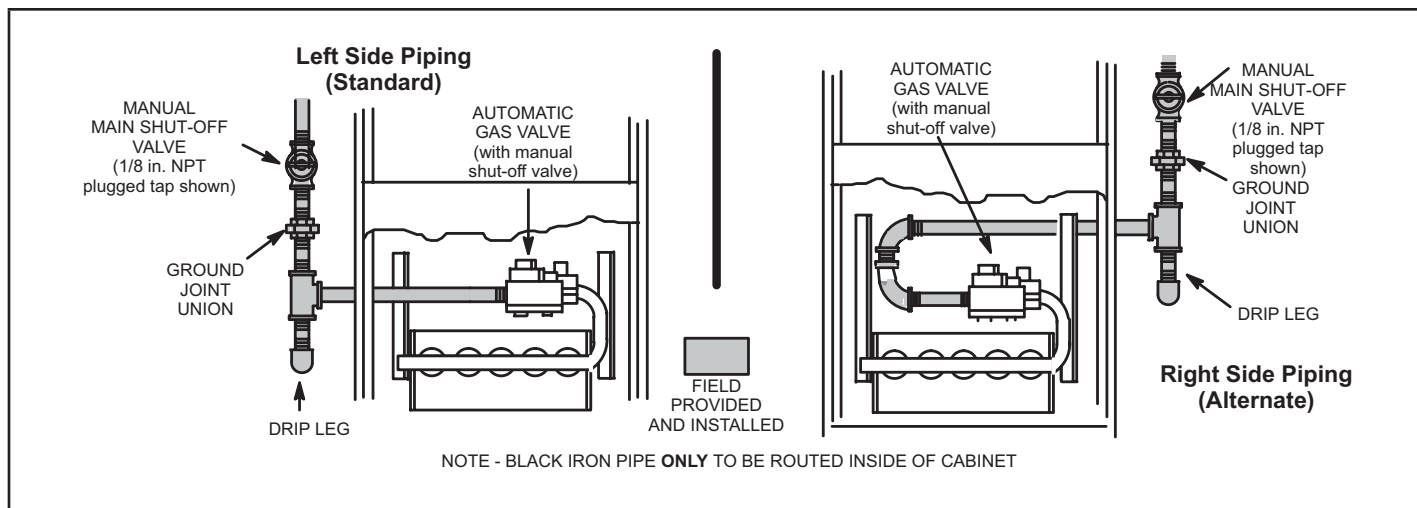

Figure 51
- 1 - Gas piping may be routed into the unit through either the left- or right-hand side. Supply piping enters into the gas valve from the side of the valve as shown in Figure 51. Connect the gas supply piping into the gas valve. The maximum torque is 800 in lbs and minimum torque is 350 in lbs when attaching the gas piping to the gas valve.
- 3 - Gas piping must not run in or through air ducts, clothes chutes, chimneys or gas vents, dumb waiters or elevator shafts. Center gas line through piping hole. Gas line should not touch side of unit. See Figure 51.